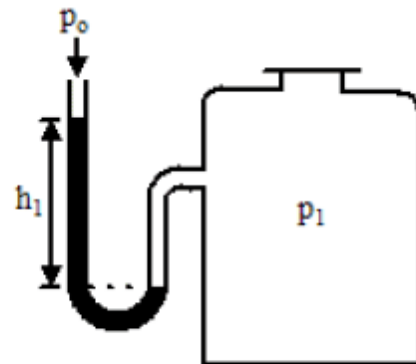

Fig. 1. Pressure  $p_1$  of gas in vessel measured in terms of difference in heights of manometer column.
**THEORY:** Consider a mass of gas enclosed in a vessel at a pressure  $p_1$  which is slightly greater than atmospheric pressure  $p_0$  (Fig. 1). The pressure  $p_1$  is measured by the difference in the heights  $h_1$  of the two columns of a manometer containing a liquid of density  $d$  grams per cubic centimeter so that